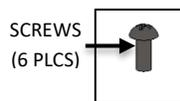

FIG.5 RED BAG CONTENTS
- a. SCREWS. (as shown in FIG. 5)